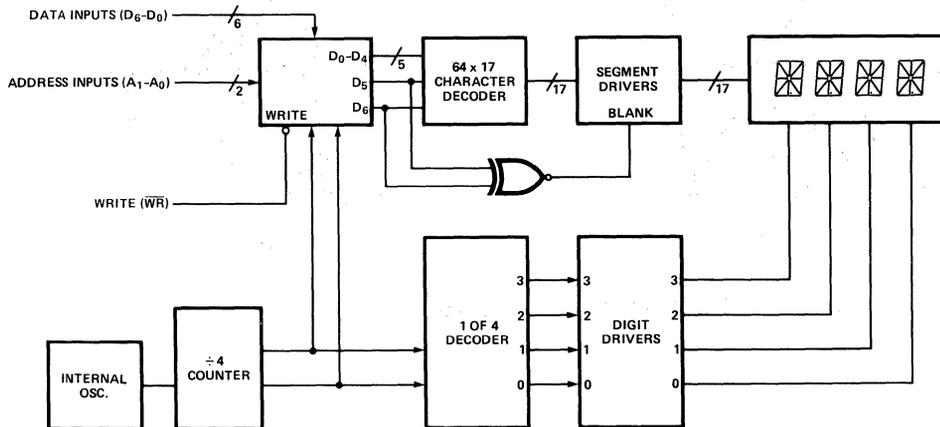

Figure 1. HPDL-1414 Internal Block Diagram.
Figure 1 shows the internal block diagram of the HPDL-1414. It consists of two parts: the display LEDs and the CMOS IC. The CMOS IC consists of a four-word ASCII memory, a 64-word character generator, 17 segment drivers, four digit drivers, and the scanning circuitry necessary to multiplex the four monolithic LED characters. In normal
Figure 4 shows a truth table for the HPDL-2416 display. Setting the chip enables ( $\overline{CE}_1, \overline{CE}_2$ ) to their low state and the cursor select (CU) to its high state will enable data loading. The desired data inputs ( $D_6 - D_0$ ) and address inputs ( $A_1, A_0$ ) as well as the chip enables ( $\overline{CE}_1, \overline{CE}_2$ ) and cursor select (CU) must be held stable during the write cycle to ensure that the correct data is stored into the display. Valid ASCII data codes are shown in Figure 1. The display accepts standard seven-bit ASCII data. Note that  $D_6 \neq D_5$  for the codes shown in Figure 4. If  $D_6 = D_5$  during the write cycle, then a blank will be stored in the display. Data can be loaded into the display in any order. Note that when  $A_1 = A_0 = 0$ , data is stored in the furthest right-hand display location.